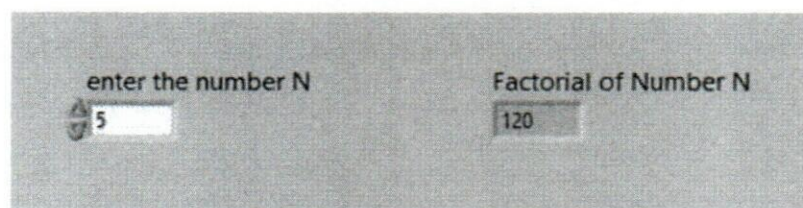

Figure Q2.3
- vi. Based on the given front panel in Figure Q2.3, design and draw the LabVIEW block diagram to compute the factorial of a given number N. Use appropriate loop structures and explain the data flow used in your solution.
The Front panel of your VI should be the same as **Figure Q2.3**. (10 marks)